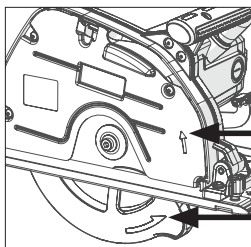

Fig. 6
- Install the (new) blade. Ensure that the direction of rotation arrows printed on the blade, match the direction of rotation arrows found on the machines upper and lower blade guards. **(Fig.6).**